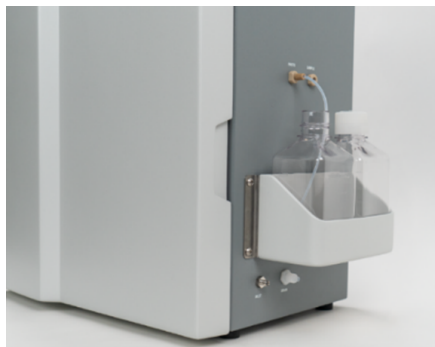

Figure 10: Side of Analyzer
- To operate the unit in sample mode connect the sample input with the 1/8" – 1/4" (3.175 – 6.35 mm) flat bottom bulkhead fitting to the sample port (above the side tray, Figure 10).